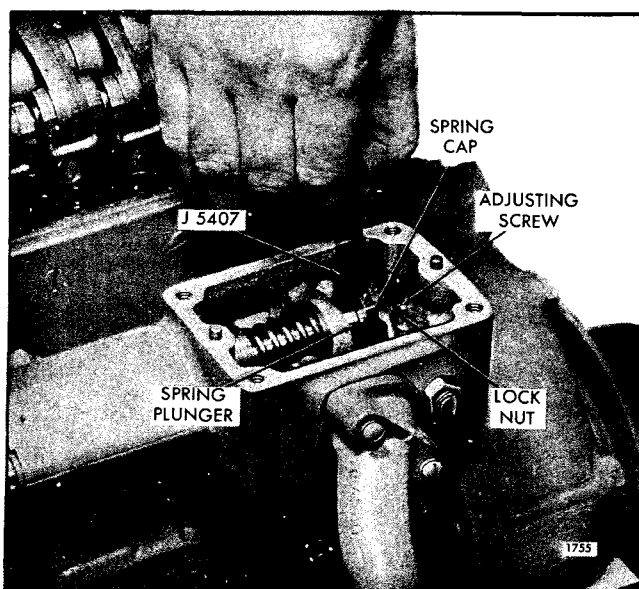

Fig. 1 - Adjusting Gap (Single Weight Governor)
6. Check the gap between the low-speed spring cap and the high-speed spring plunger with gage J 5407 (.170 ") as shown in Fig. 1.